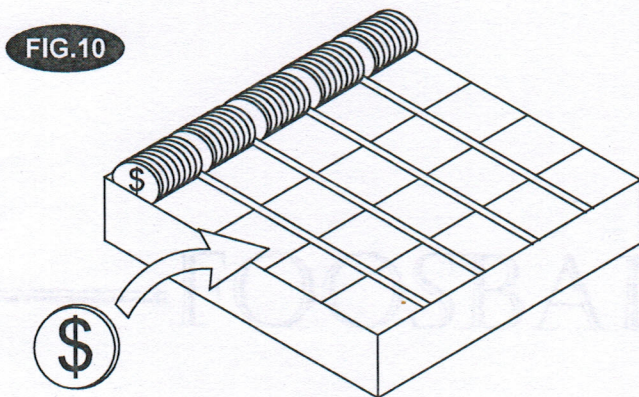

FIG. 10: WEALTH STATISTICS
- FIG. 10: more quick and accurate to calculate out your wealth